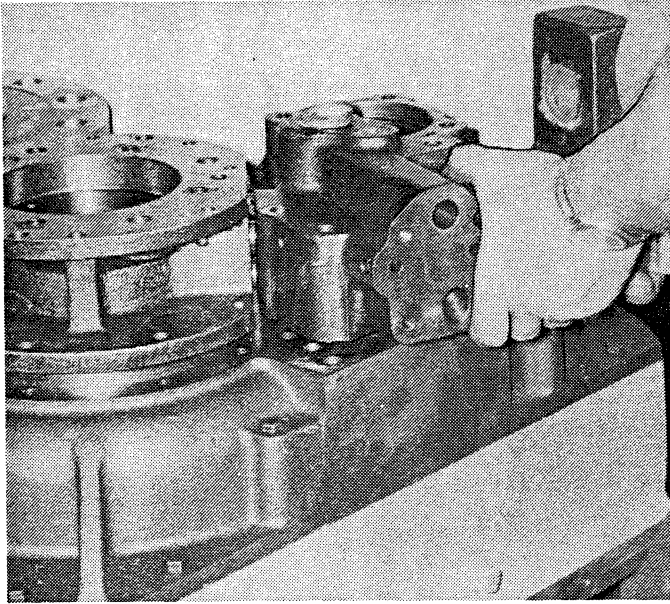

Figure 10-3. Removing or Installing Valve and Filter Carrier Assembly and Forward Shaft Collector.
1. To install the pump adapter forward shaft collector (Figure 12-1, 36 to 43), remove the valve and filter carrier (Figure 12-4, 10) and the existing forward shaft collector (Figure 12-1, 7). Note that both of these items must be removed or loosened because of jumper tubes (Figure 12-4, 16) between them. See Figure 10-3.